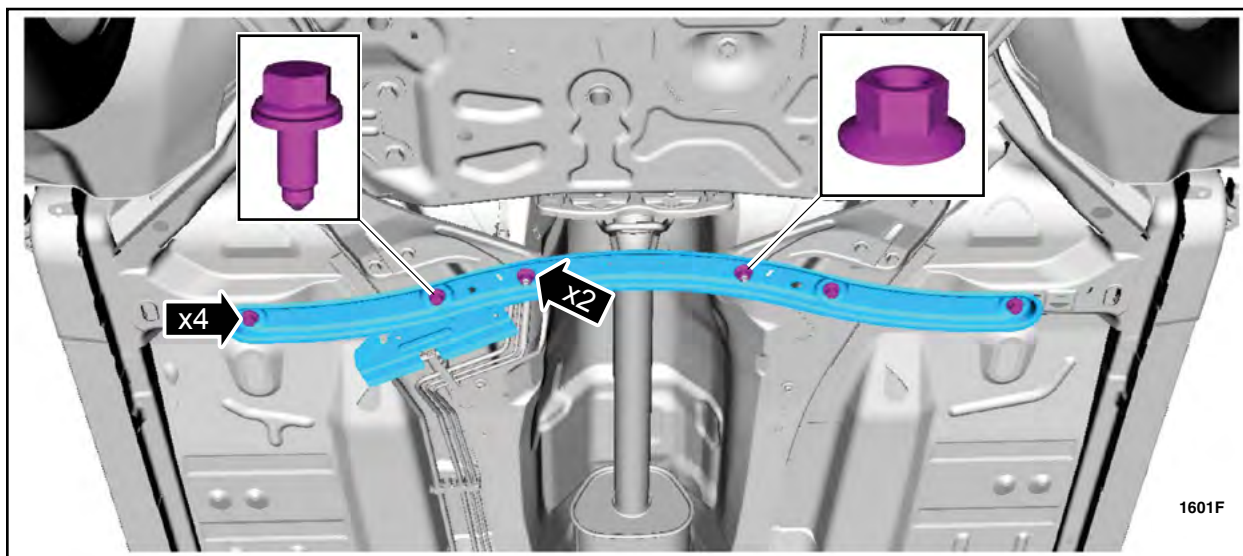

FIGURE 6
4. Remove the two nuts and four bolts, then remove the crossbrace. See Figure 6.
9. If removed, install the crossbrace, four bolts, and two nuts. See Figure 6.